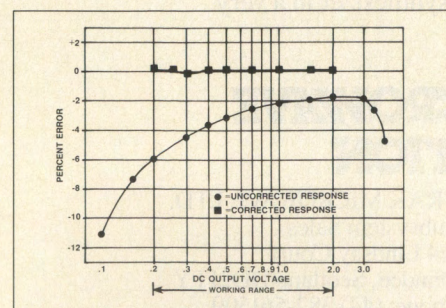

Figure 7. Measurement error over the output range.
Estimated total error is thus 5.6 percent at the low end of the range, reducing to 2.4 percent at the high end of the range. Actual measured error is shown in Figure 7, which is close to expected. Working range was chosen to be .2-2 volts at the DC output. This is the most linear portion of the curve, keeping a safe level below the point of amplifier output compression.
4. The input level is increased by 20 dB, and the process is repeated starting with step 2, until the 1 MHz gain is calibrated at both the low and the high end of the range. The resulting measurement error over the full output range is also shown in Figure 7. This is very close to the ideal.